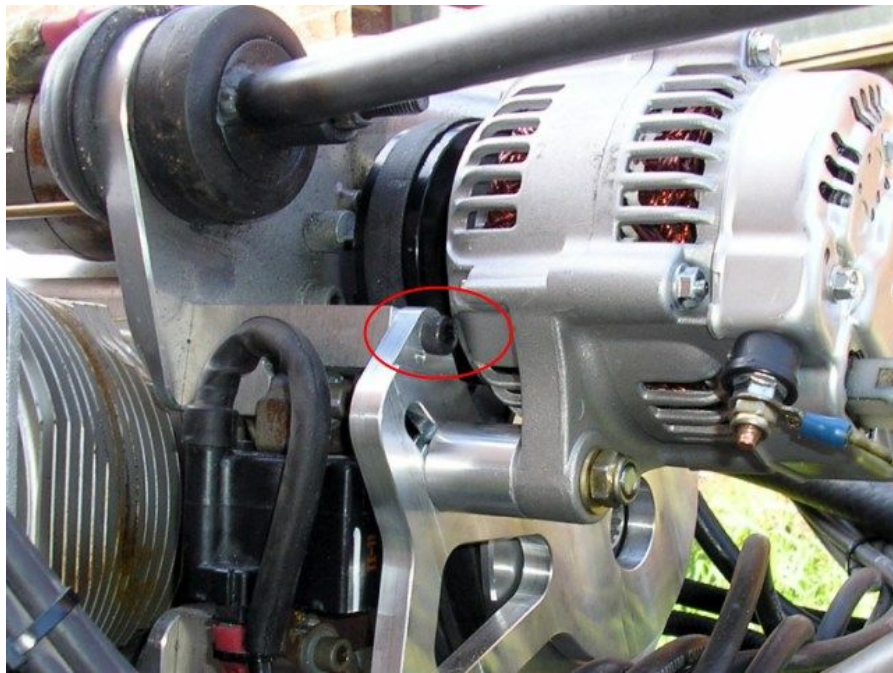

Figure 3.1.1: M6 x 100 mm socket head cap screw in position.
7. Introduce the Rotec alternator bracket making sure V-belt is around pulley (otherwise the belt cannot be added later). Be sure the M8 x 60mm coach bolt is included in the alternator adjustment slot before installation (see figure 3.1.1). As mentioned, used all original bolts to mount the bracket other than the the upper left alternator bracket bolt, looking from the back of the engine. Use the provided M6 x 100 mm socket head cap screw instead.